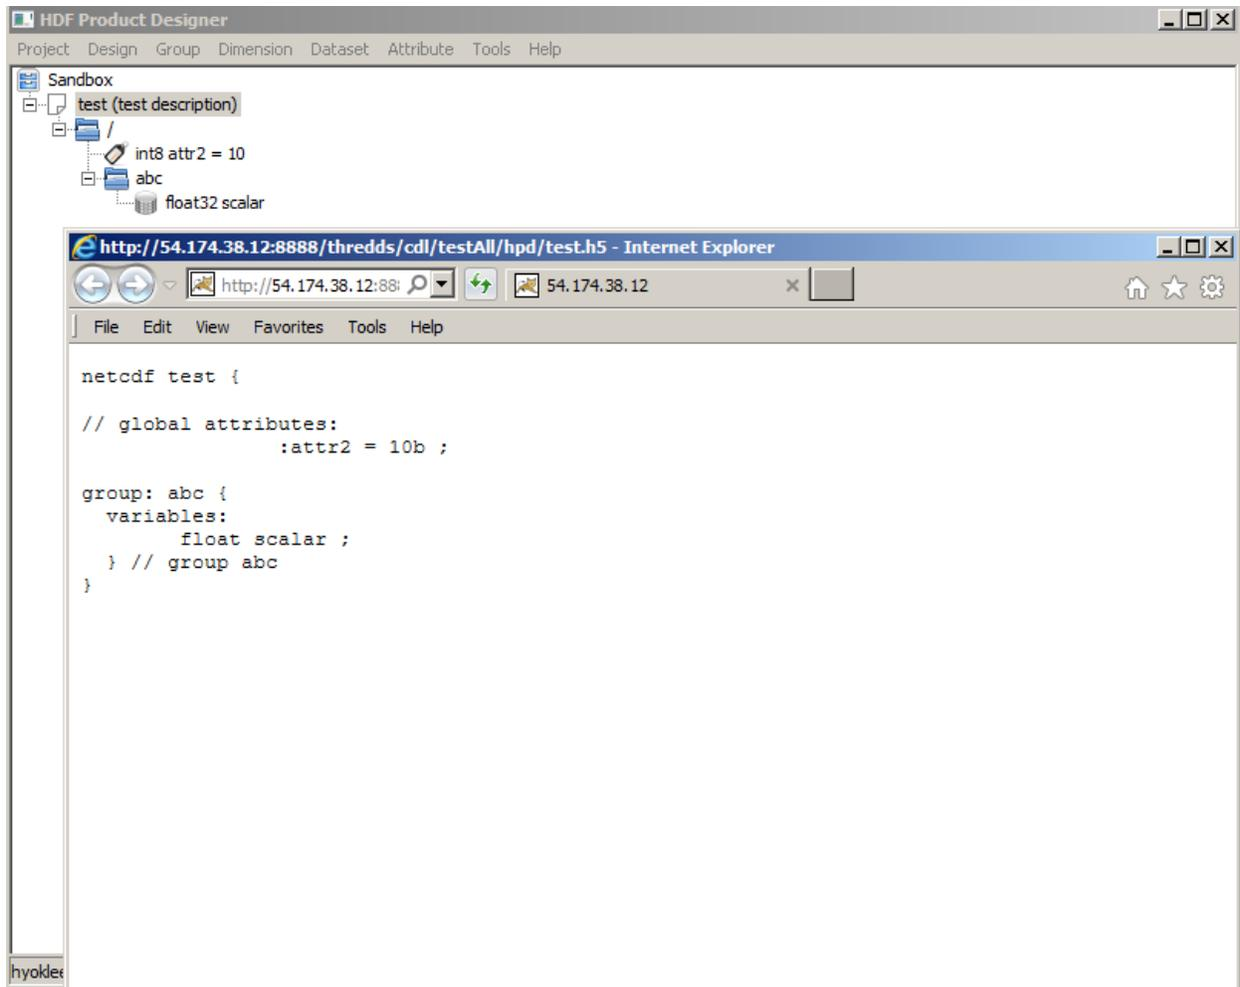

Fig. 5.24: CDL output from HPD Online
- If no errors, the CDL output will be displayed in a web browser window (Fig. 5.24).